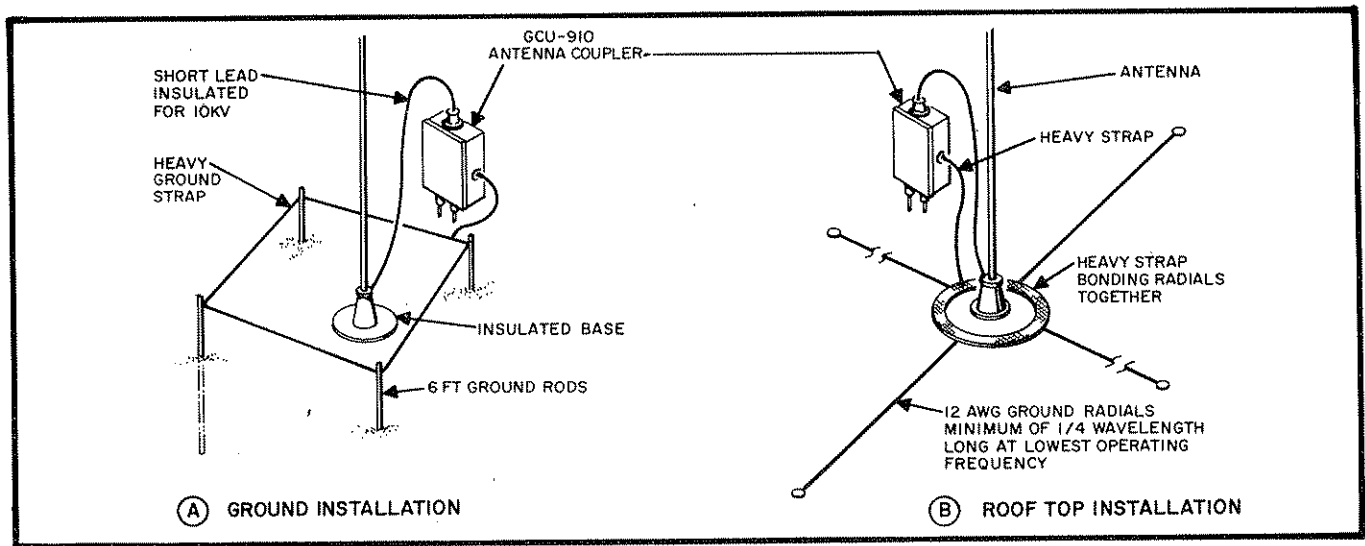

Figure 2.4 The Whip Antenna
3. When using whip antennas, the ground system actually forms part of the radiating system. Where space permits (such as in a base station installation) a good ground plane or radial system should be installed at the base of the antenna. (See Figure 2.4) AN INADEQUATE GROUND SYSTEM IS MOST OFTEN RESPONSIBLE FOR DISAPPOINTING PERFORMANCE WHEN USING A WHIP ANTENNA.
Whips and long wires are popular non resonant antennas. The whip antenna (illustrated in Figure 2.4) is often used in mobile, marine, portable or semi portable installations because it is rugged and self supporting. The antenna impedance changes with the operating frequency and therefore the GCU-910 antenna coupler must be used to match the antenna to the transceiver. Best radiation efficiency will be obtained if the antenna is at least  $1/8$  wavelength long at the lowest operating frequency; however, this requirement does not result in a practical size antenna for low frequency operation. Thirty-five foot whip antennas offer a good compromise between practical height and good electrical performance at low frequencies. The GCU-910 antenna coupler will match antennas as short as 9 feet, however the use of an antenna of this short length is not recommended due to the poor radiation efficiency particularly at frequencies below 10 MHz. The whip's performance is also greatly influenced by its ground system. For base station installations, a minimum of four six foot long ground rods should be driven into the ground symmetrically placed around the antenna base. The rods should be bonded together with heavy strap and then connected to the antenna coupler ground by another short heavy strap. If the antenna is mounted on the roof of a building, where a short ground lead to the coupler cannot be obtained, a minimum of 4 symmetrically placed ground radials should be installed at the base of the antenna, bonded together, and connected to the antenna coupler ground post. The radials should be made of number 12 gauge wire or larger and should be at least  $1/4$  wave long at the lowest operating frequency. The whip's radiation pattern is omni-directional.